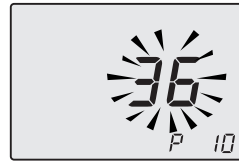

Fig. 7.39
- The writing **P10 - SEt** alternates on the display (Fig. 7.39).